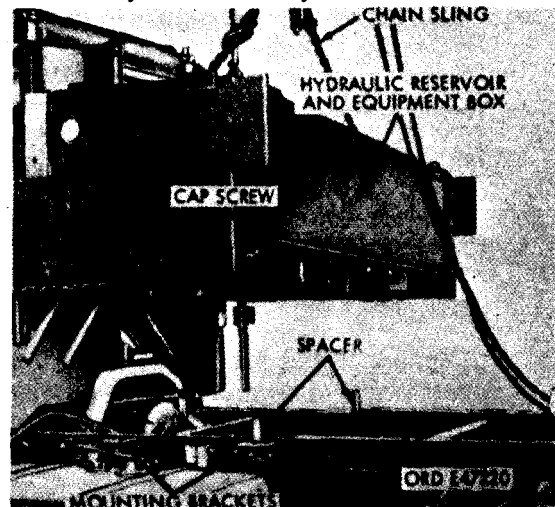

Figure 432. Removing hydraulic reservoir and equipment box (M62)
- (4) Attach a chain sling (fig. 432) and overhead hoisting equipment to reservoir, and lift reservoir from mounting brackets and remove from vehicle.
Note. Be careful not to lose spacers (fig. 432).
- (5) Remove four cap screws (fig. 432), two at each end, from reservoir.
- (1) Insert four cap screws (fig. 432), two at each end, in holes in reservoir and equipment box.
- (2) Make sure that spacers (fig. 432) are in position on mounting brackets and, using chain sling and hoist, position hydraulic reservoir and equipment box on brackets.